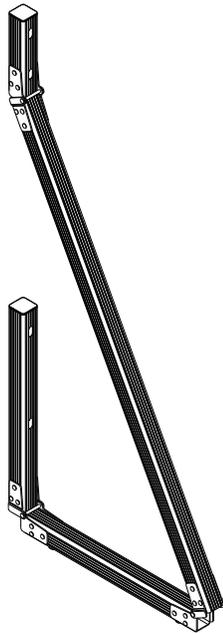

fig 14
2. Undo the snap locks to loosen and bend the joints for proper fitting as shown in (fig 14).